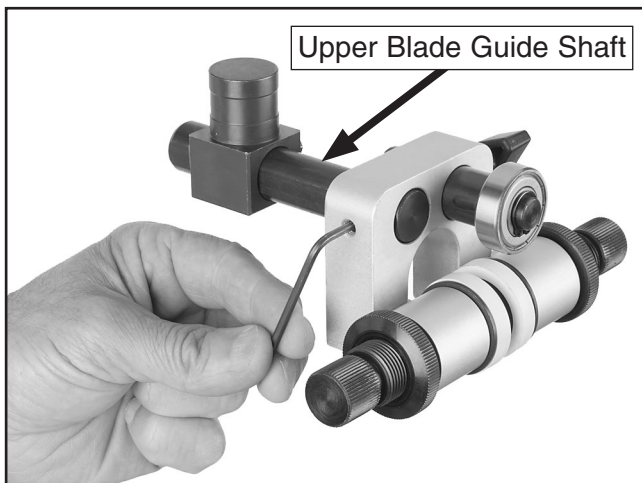

Figure 5. Securing upper shaft.
- Loosen the set screw on the upper guide block, insert the upper shaft into the guide block so the shaft end is flush with the front of the block, then tighten the set screw (see **Figure 5**).